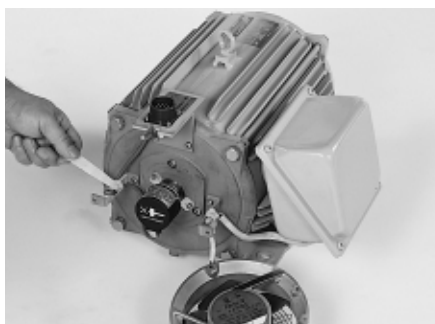

Fig. 12
- (5) Remove the binding band that fixes the cable in place and peel off the adhesive tape. (Fig. 12)